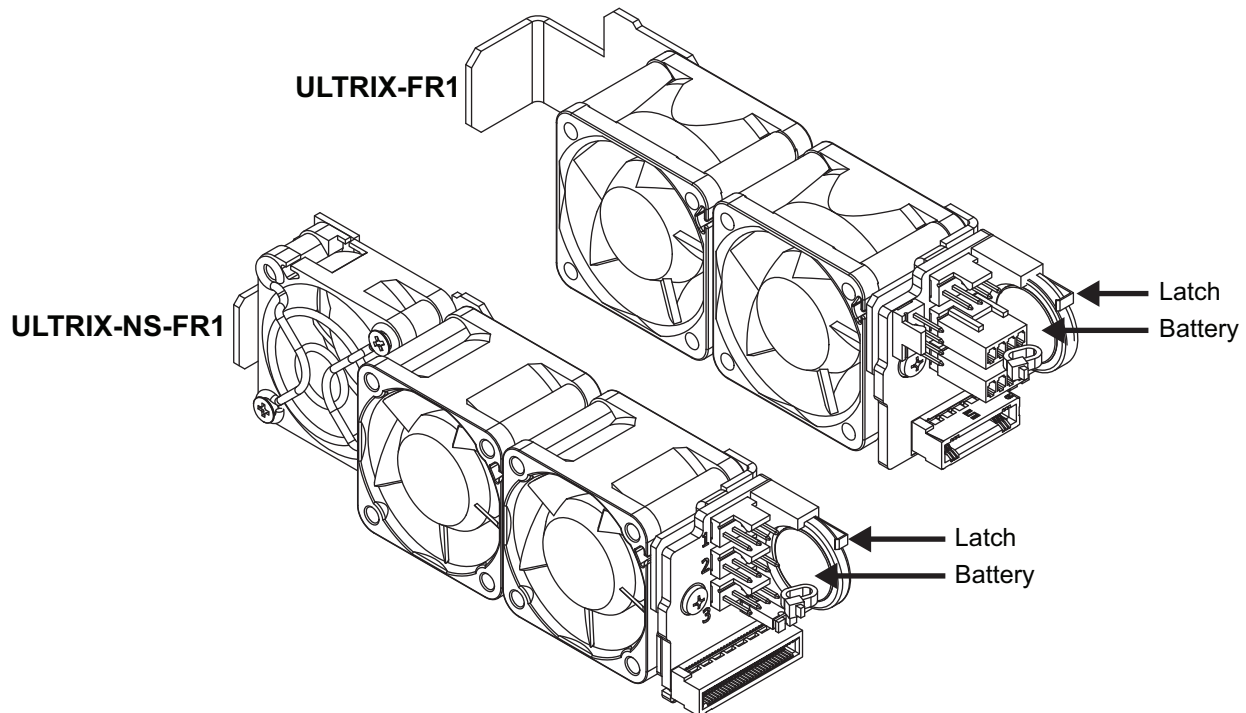

Figure 93 Battery Location inside the Cooling Fan Module — ULTRIX-FR1 and ULTRIX-NS-FR1
1. Locate and note the orientation of the failed battery inside the Cooling Fan Module. (**Figure 93**)